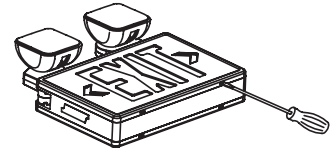

Fig. 2
1. Use flat blade screwdriver. Insert the screwdriver to the slots and pry off front cover from fixture. (see Fig.2)
2. Use flat blade screwdriver. Insert the screwdriver to the slots and pry off front cover from fixture. (see Fig. 2)